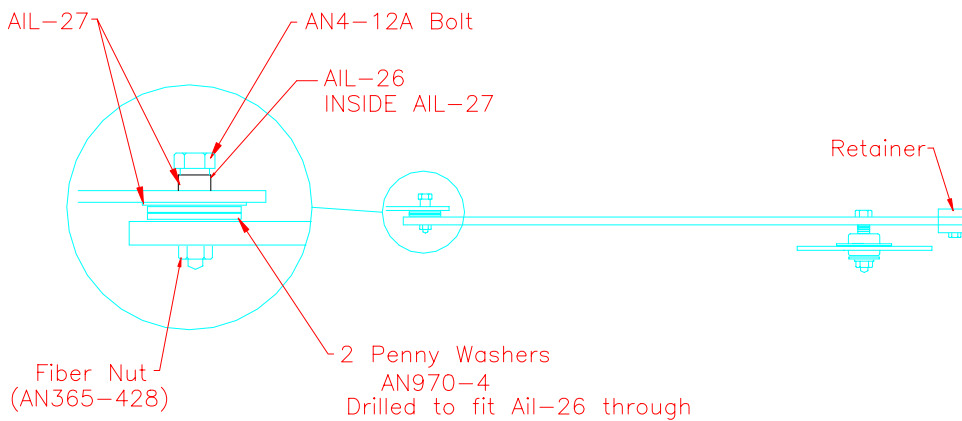

Figure 15.7.13
- 23) Slide the wide end of the mixer arm between the retainers and attach mixer arm to the rear doubler. The arm should move freely within the retainers. Sanding of the arm may be required. Figure 15.7.13.